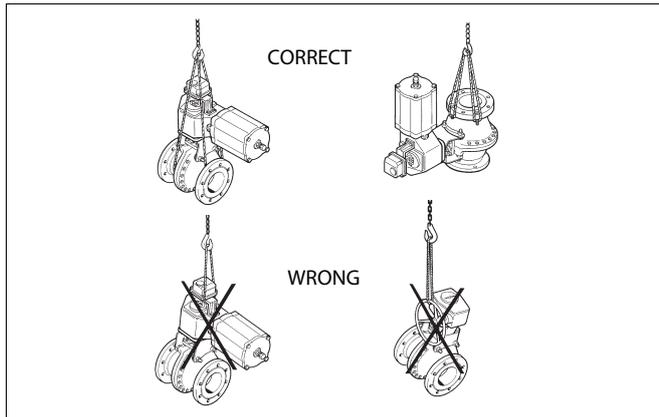

Fig. 5 Lifting the valve package
Do not lift the valve or the valve package from the actuator, positioner, limit switch or their pipes. When lifting the valve, place the lifting ropes around the valve body. See Figure 5.
When lifting the valve, place the lifting ropes around the valve body. See Figure 5.
- Carefully attach the ropes, loosen the pipe flange screws and lift the valve using the ropes. Make sure that you lift the valve correctly. See also Figure 5.